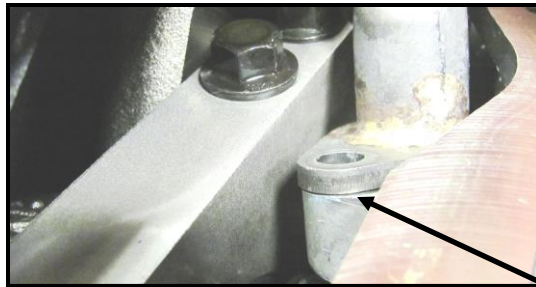

Figure 5
3. Install the new Holley® oil pump pickup screen assembly ensuring that oil pump pickup screen tube is pushed completely into the oil pump before tightening the bolts (**Figure 5**). Do not allow the bolts to pull the tube into the pump. Attach using the two M6 x 16mm long flanged socket head capscrews included in the installation parts kit.